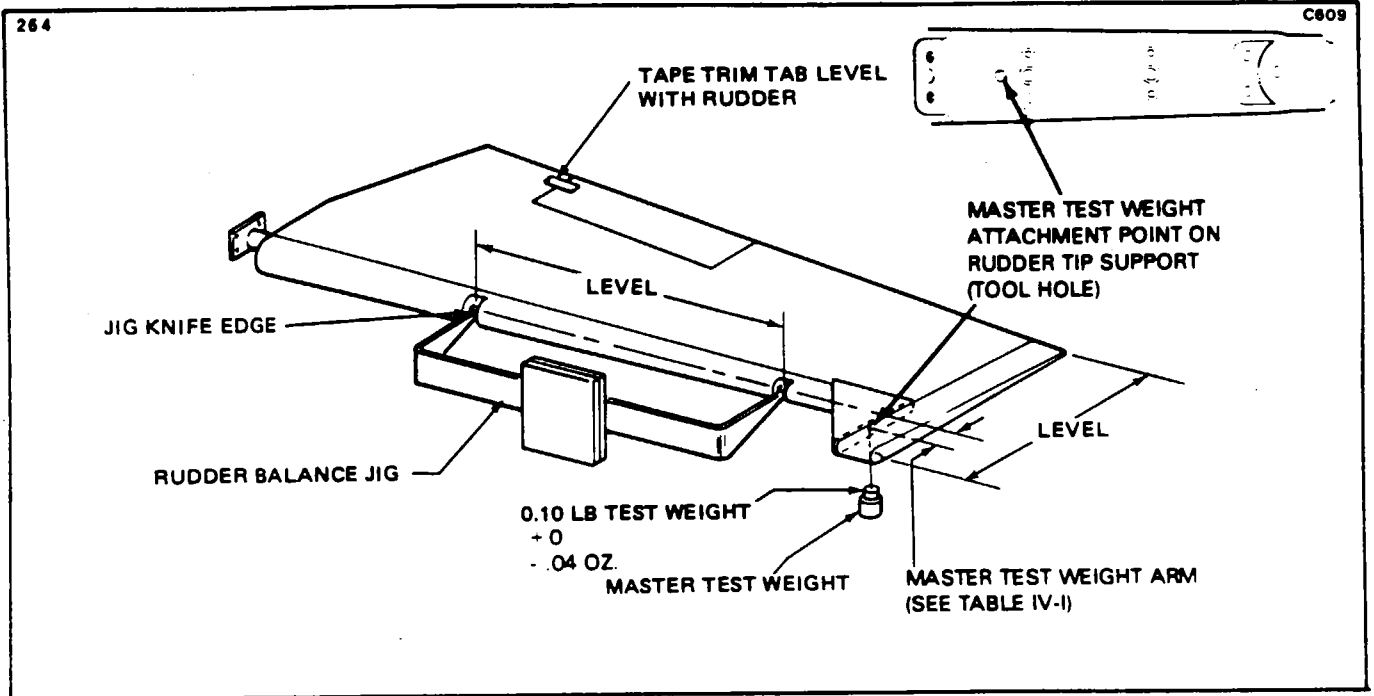

Figure 4-19. Rudder Balancing
4-97. RUDDER BALANCING PROCEDURE. (Refer to Figure 4-19.)
- c. Fabricate a master test weight per specifications given in Table IV-I and hang it in the existing tool hole in the rudder counterbalance channel, part number 40045. Ascertain that the tool hole is located to provide the proper master test weight arm as shown in Figure 4-19, defined in Paragraph 4-93 and specified in Table IV-I.
4-98. STRUCTURAL REPAIRS. Structural repair methods used may be made in accordance with regulations set forth in FAA Advisory Circular 43. 13-1. To assist in making repairs, Figure 4-19 identifies the type and thickness of skin structure used. Never make a skin replacement or patch from a material thinner than the original skin. Original material and thickness is recommended and must result in a surface which is as strong as, or stronger than, the original skin. However, flexibility must be retained so that the surrounding areas will not receive extra stress.